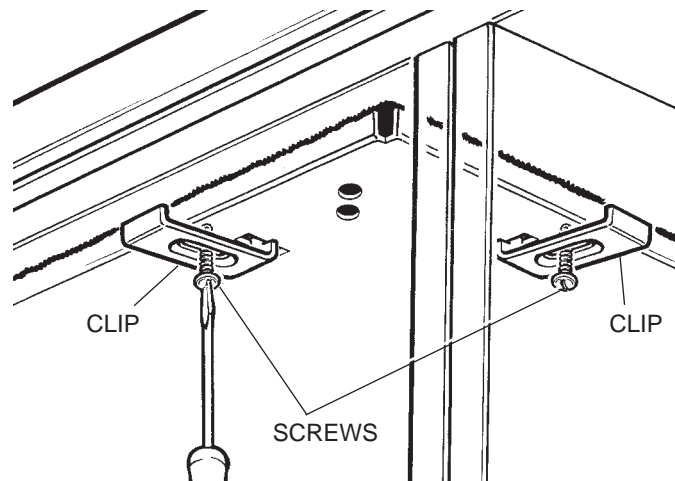

Figure 14 - fixing to worktop
7. Turn the clips, making sure that the clips grip the worktop, and then tighten the screws (Figure 14).